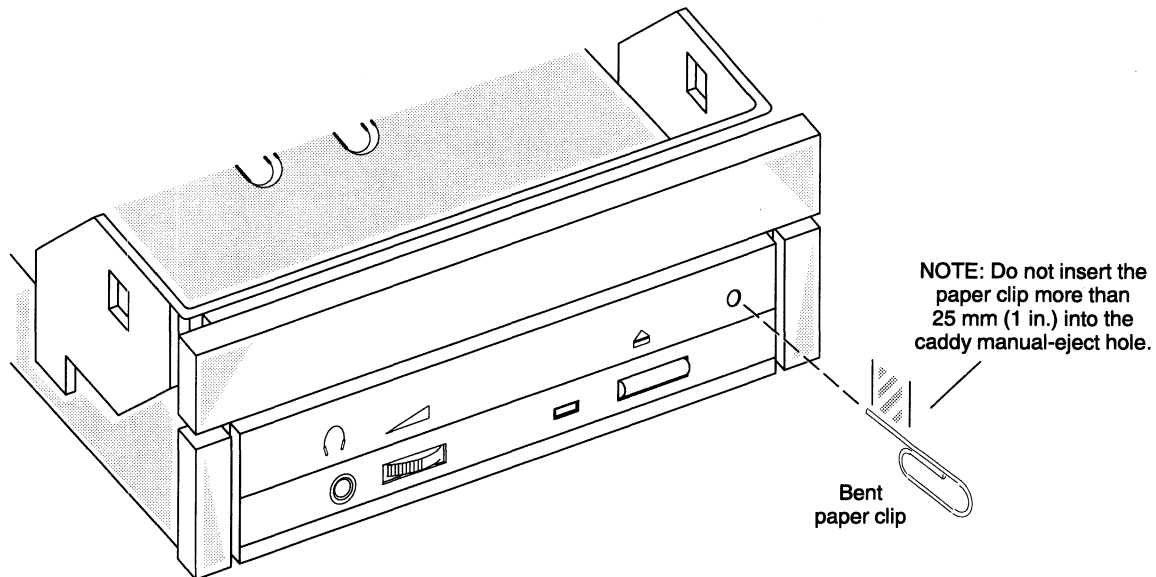

Figure 14 Actuating the CD-ROM drawer manual-eject mechanism with a paper clip
2. Bend a medium size paper clip to the shape shown in Figure 14.
3. With the drive's power turned off, push the bent paper clip into the hole, as shown in Figure 14. Never push the paper clip in more than 1 inch (25 millimeters). As you push the paper clip into the hole, you will feel resistance. Continue pushing the paper clip in until the CD-ROM drawer opens.